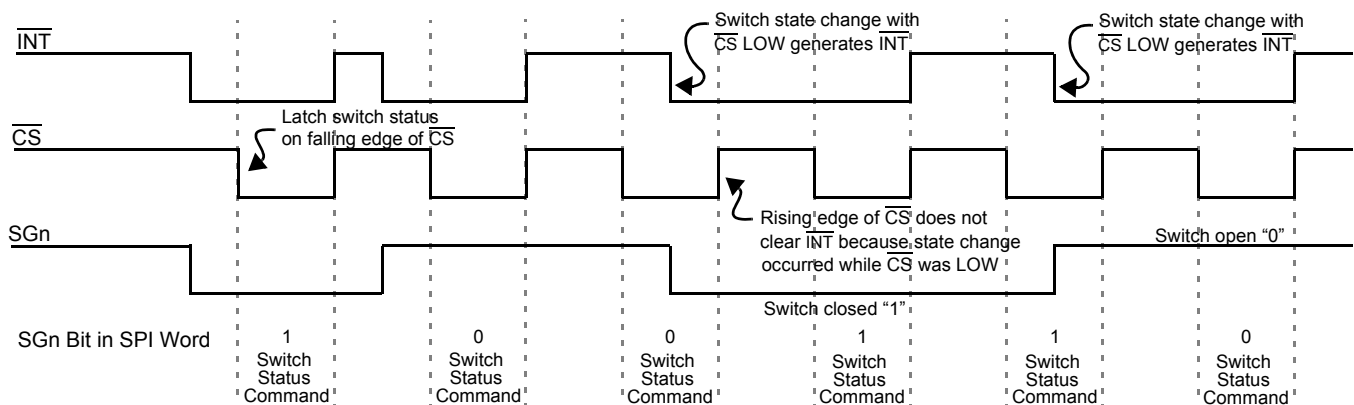

Figure 6. Normal Mode Interrupt Operation
2.  $\overline{INT}$  pin is reset to logic [1], except when additional switch changes occur during  $\overline{CS}$  LOW. (See Figure 6 on page 9.)
Figure 6, page 9, is a graphical description of the device operation in Normal mode. Switch states are latched into the input register on the falling edge of CS. The INT to the MCU is cleared on the rising edge of CS. However, INT will not clear on rising edge of CS if a switch has closed during SPI communication (CS LOW). This prevents switch states from being missed by the MCU.